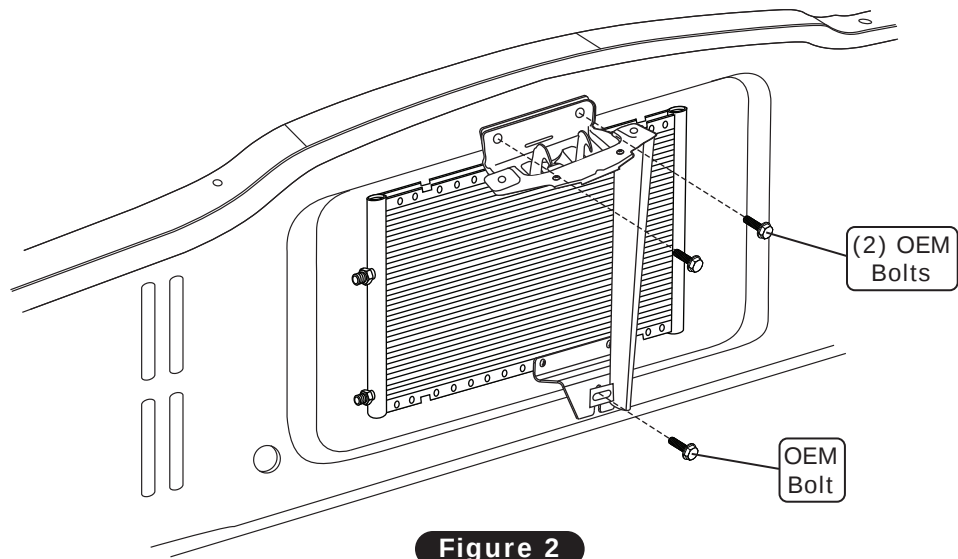

Figure 2
2. Reinstall the hood latch assembly in front of the condenser as shown in Figure 2, below.
3. Using (2) OEM bolts, secure the top of the hood latch assembly and the upper condenser bracket to the top of the core support (See Figure 2, below).
4. Using the OEM bolt, secure the bottom of the hood latch assembly and the lower condenser bracket to the bottom of the core support as shown in Figure 2, below.